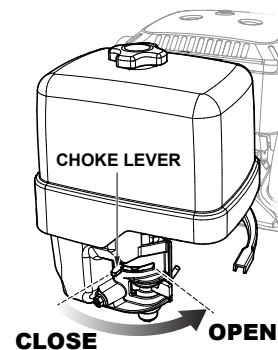

Figure 17. Engine Choke Lever (Open)
5. Place the choke lever (Figure 17) in the **“OPEN”** position if starting a warm engine or the temperature is warm.